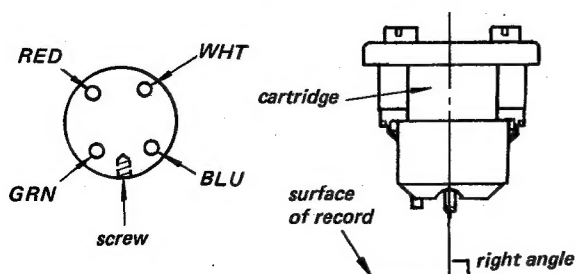

Fig. 2-7
7. Fix two shell-head-adjust-screws after making sure that the position of cartridge is as shown in Fig. 2-7.